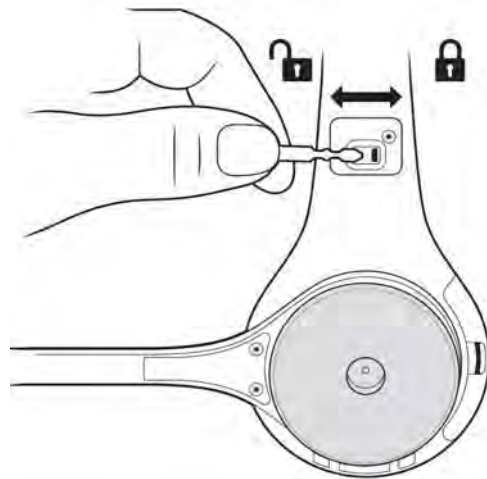

Figure 7.
1. On the opposite side of the Headset Carrier, ensure that the Control Pod Locking Mechanism is in the unlocked position by sliding it all the way to the left. A small flat head screwdriver or other similar tool can be used to slide the locking mechanism if needed. See Figure 7.
4. Slide locking mechanism on opposite side of carrier to the locked position. See Figure 7.